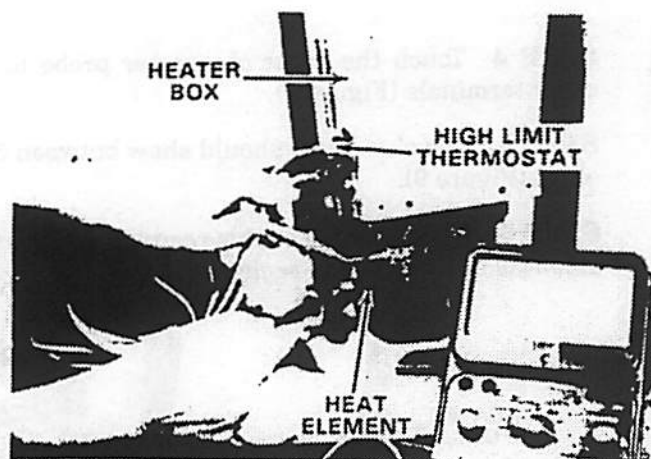

Fig. 10. Three-terminal heater element.
STEP 7 Touch one ohmmeter probe to the middle terminal (H2)—Figure 10.
STEP 8 Touch the other ohmmeter probe to the outside terminal having two wires (H1)—Figure 10.
STEP 9 The ohmmeter should show between 1-4 ohms (Figure 10).
STEP 11 Touch one ohmmeter probe to one of the outside terminals (H1)—Figure 10.
STEP 12 Touch the other ohmmeter probe to the other outside terminal (H3)—Figure 10.
STEP 13 The ohmmeter should show between 6-10 ohms—Figure 10.